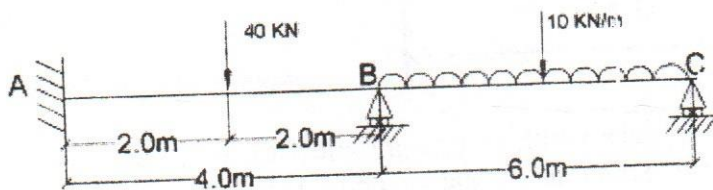

Fig.3
13. a) Determine DQL matrix for the beam shown in fig.3